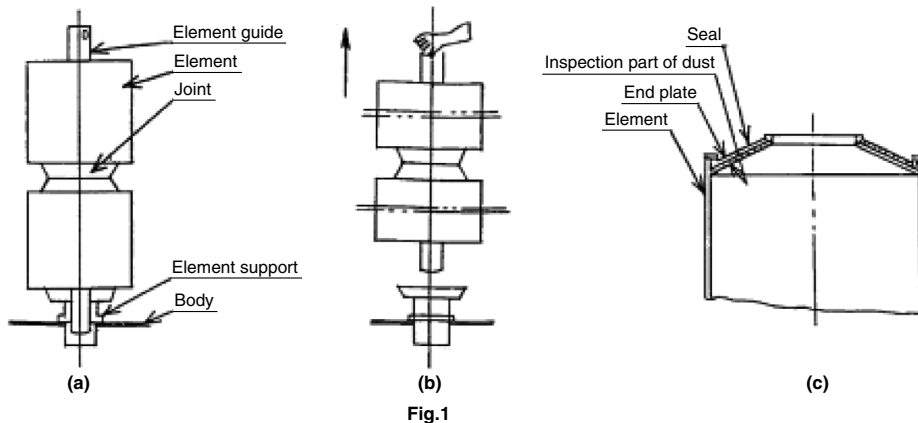

Fig.1
- 3-2. Open the air vent valve and drain valve in order make the pressure inside the filter zero (0) and discharge all fluid from the inside.
- 3-3. Loosen the bolt ① and nut ② for tightening the filter cover and the filter case little by little uniformly at first. When the nut can be turned with hand, remove them one after another in order from the end.
- 4-3. After taking out the element holder, the element and joint can be taken out together if the element guide is taken out in such a manner as mentioned in (Fig.1).
- 5-1. As for the elements except the honeycomb and paper elements, check if there is no dust between the end plate and seal when taking them out. If there is any dust, clean it off. (See Fig. 1 (c).)